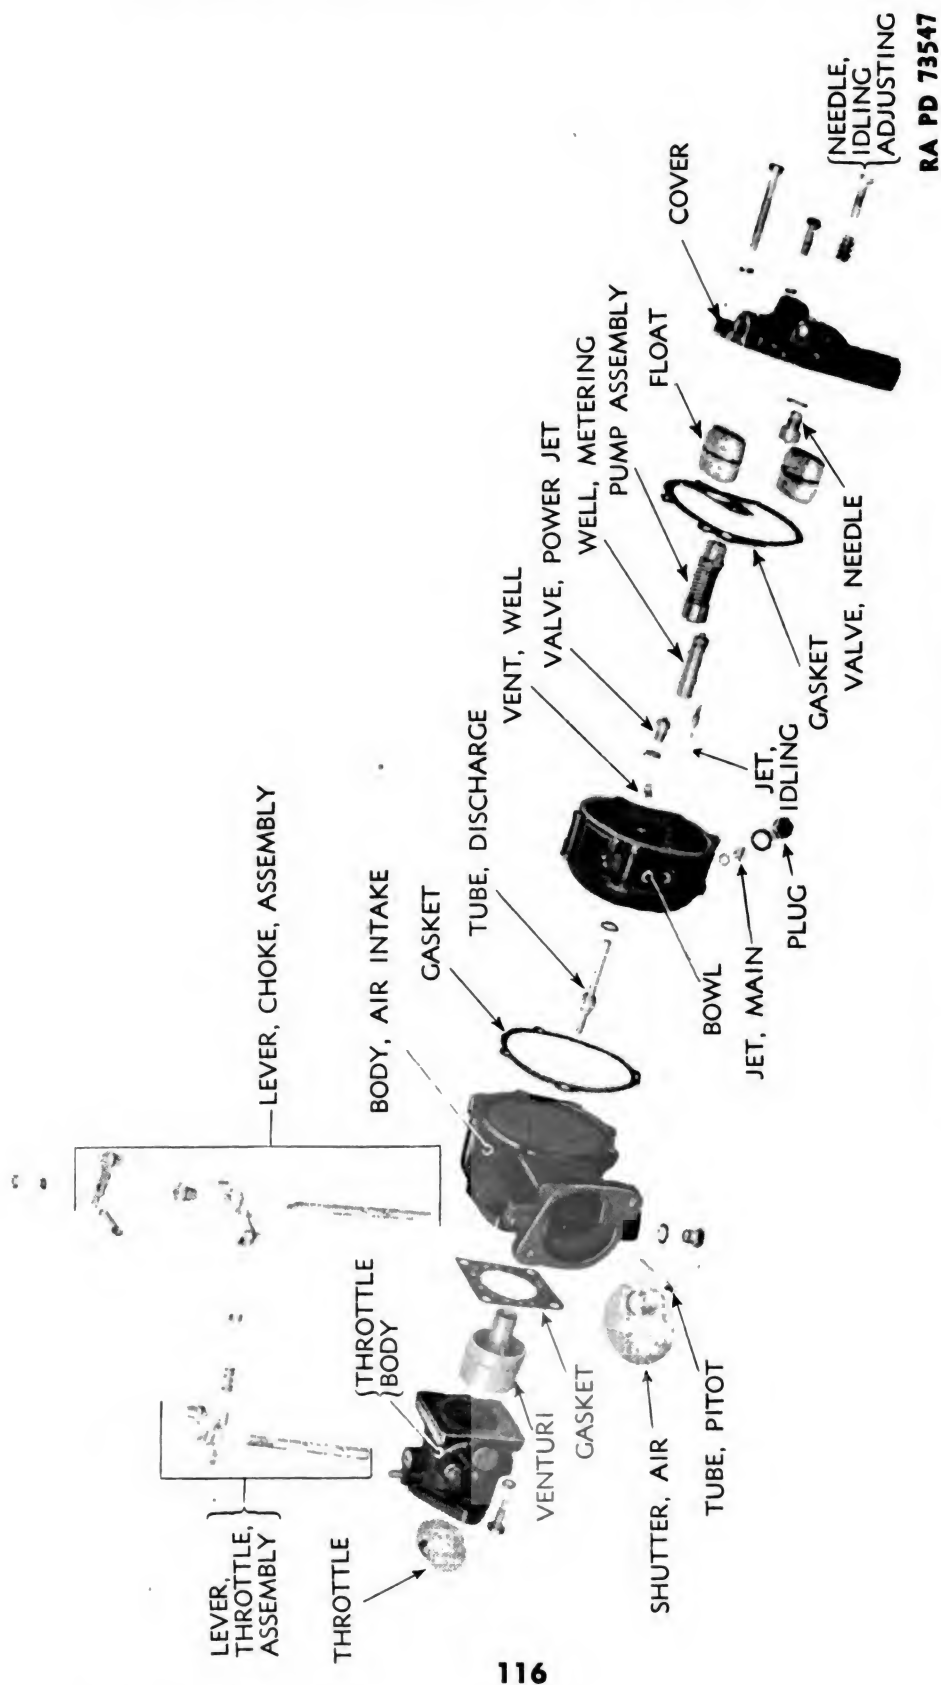

Figure 103 - Carburetor Assembly Details
42. CARBURETOR ASSEMBLY (fig. 103).